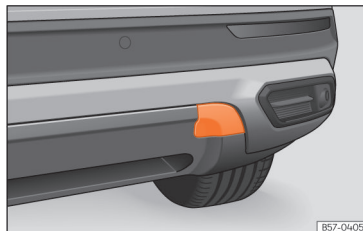

Fig. 196 Rear bumper on right: remove the lid.
The housing of the screw towing eye is on the right side of the rear bumper behind a lid >>> **Fig. 196**.
- Press the upper side of the lid »» Fig. 196 to unclip it.